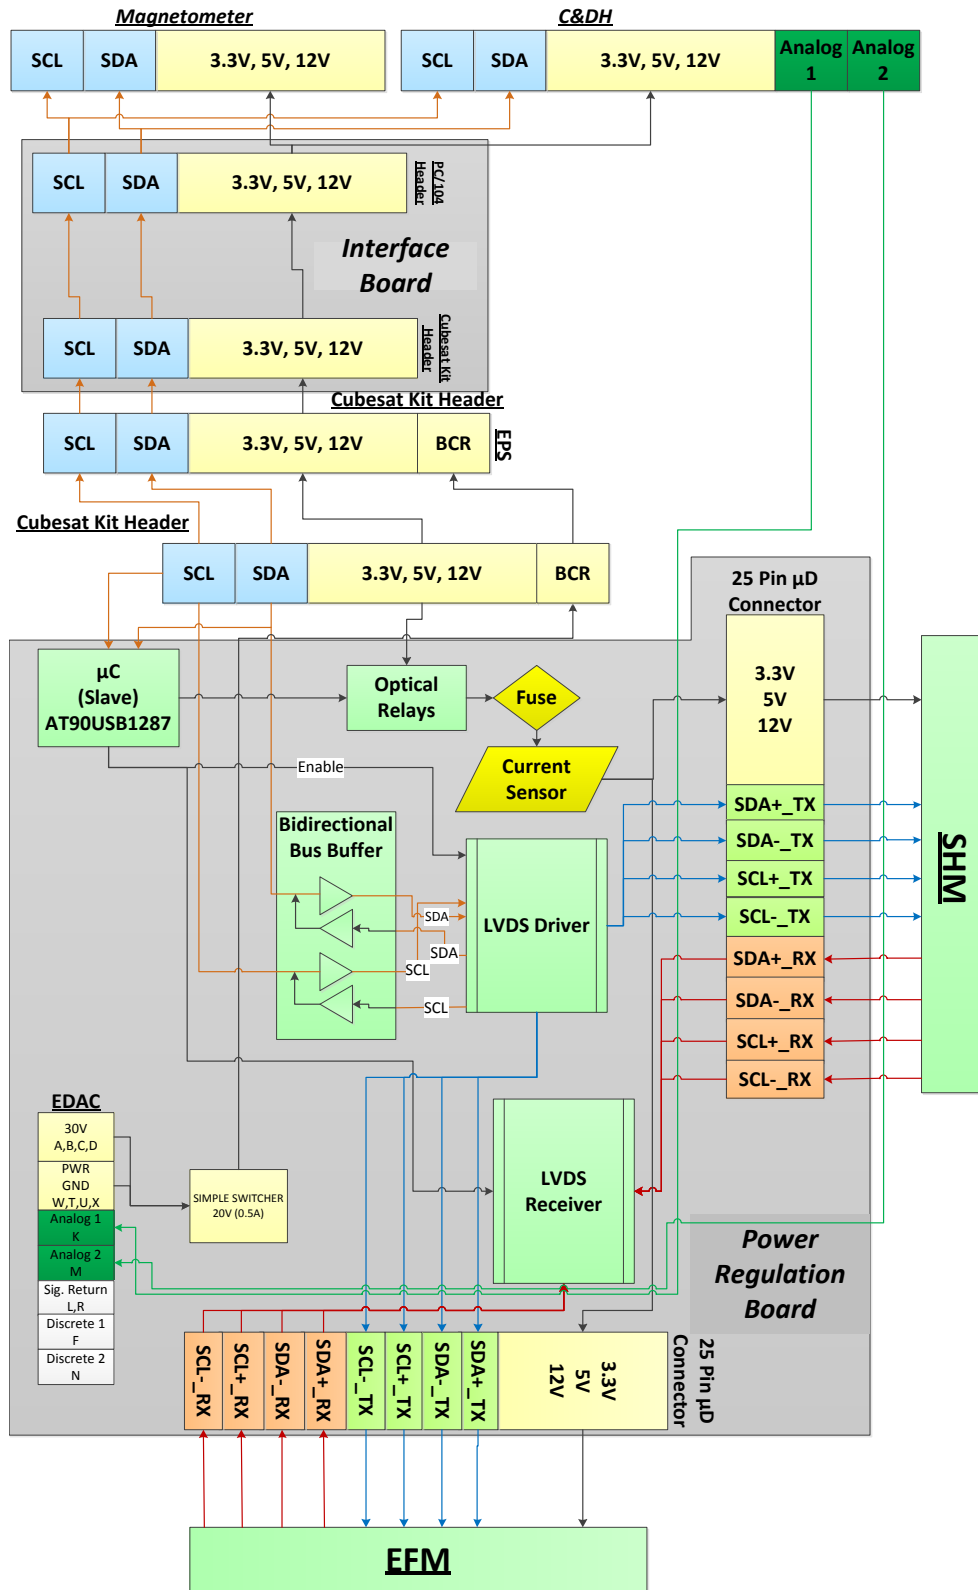

Figure 2: Wiring Diagram
- B. Power system wiring diagram starting from pins on the student payload interface plate EDAC 516 connector through SPIFF power conversion to the voltages required by C&DH and payload subsystems: (see Figure 2).